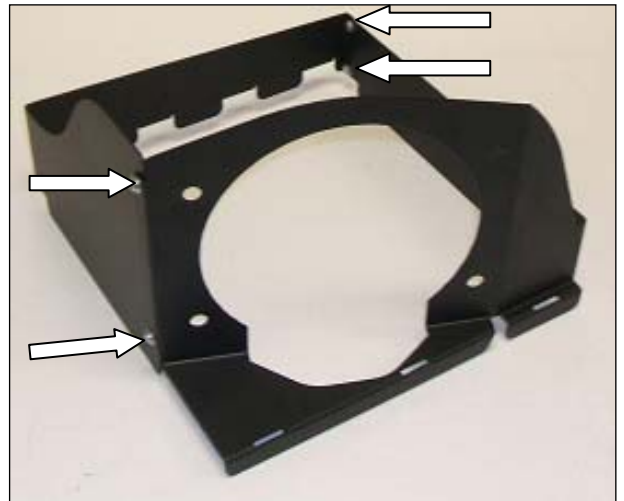

Figure 3
8. Assemble the two (2) Air Box Panels with four (4) 6-32 Screws, four (4) #6 Flat Washers, and four (4) 6-32 Kep Nuts. Refer to Figures 3. Assemble with the mounting flanges and screw heads to the outside of the assembly.